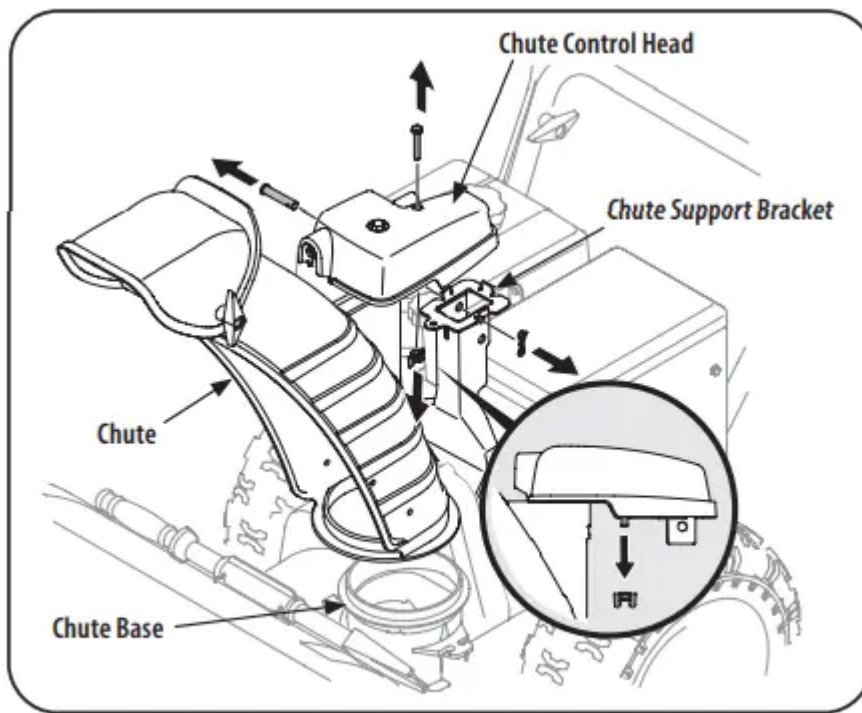

Figure 13
1. Remove wing nut and hex screw from chute control head and clevis pin and cotter pin from chute support bracket. Position chute assembly (forwardfacing) over chute base. See Figure 13.